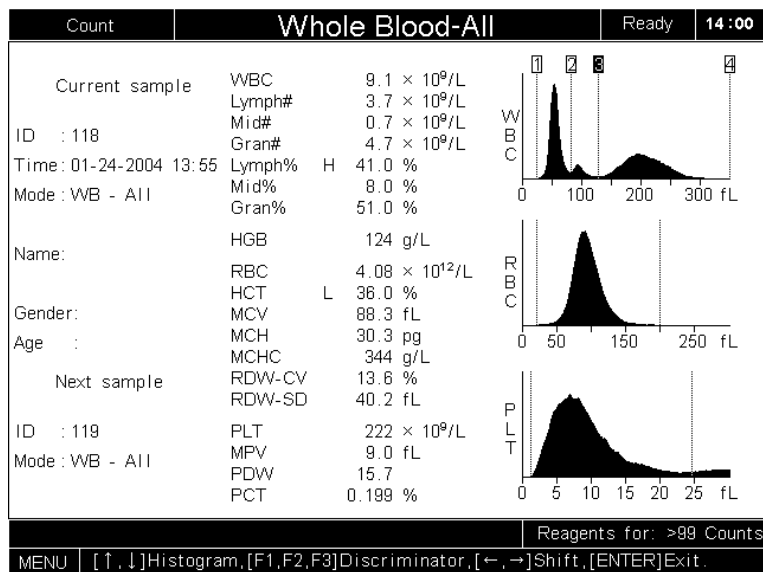

Figure3-13 Adjusting WBC histogram [1]
3. Press [F3] to select the third discriminator, as Figure3-13 shows.